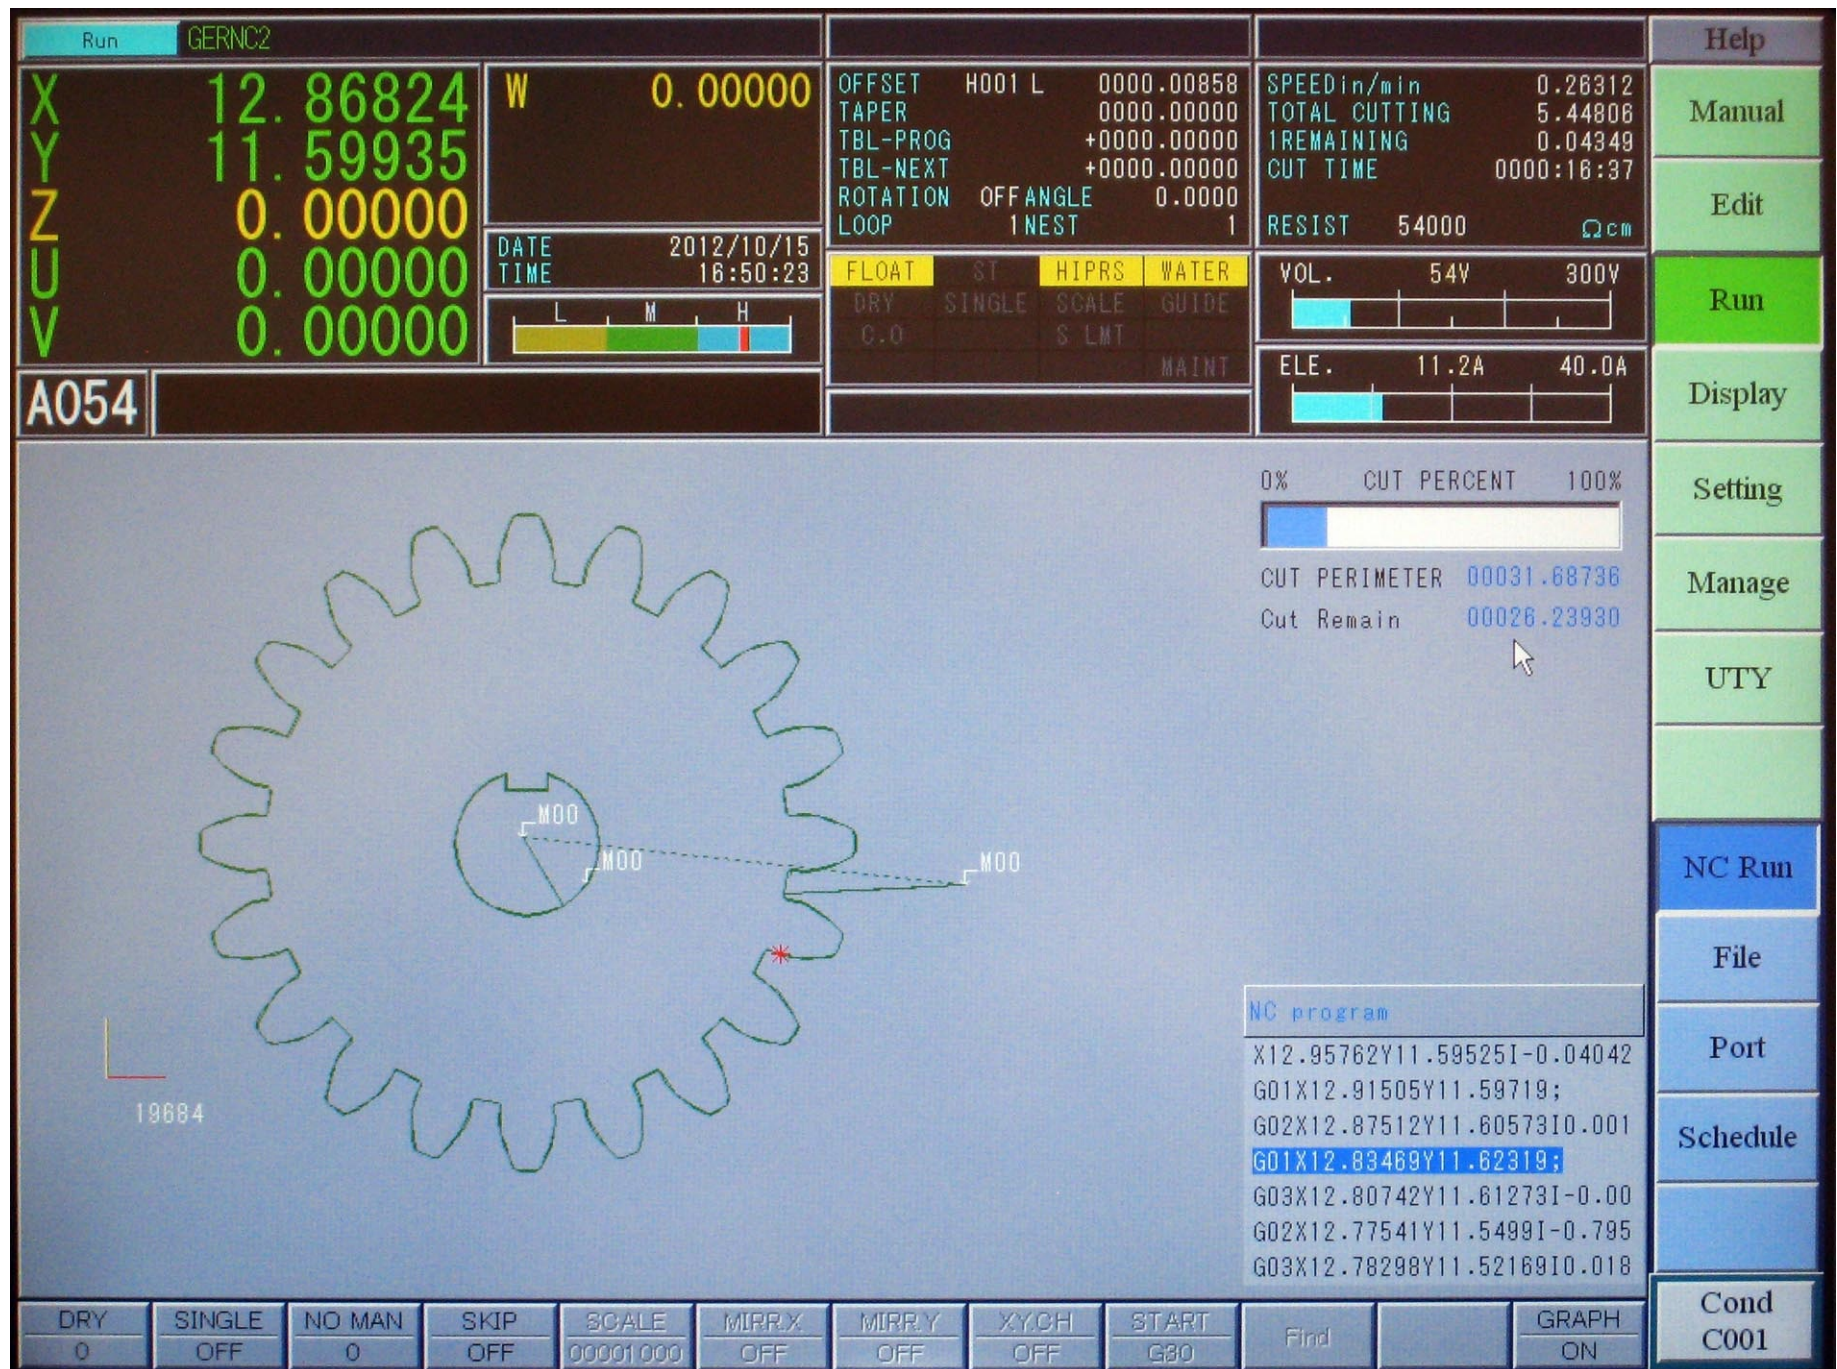

Figure 13 - Run NC Run Enter for Cutting
- Once the wire is located in the starting position, **press the home key to start at the top of program then press enter to begin the cutting process.** You will be able to follow the process by watching the small red star trace the outlines of the part. At the same time you will be able to see the G code being executed in the window on the lower right hand portion of the view window. The cutting process is represented in figure 13.